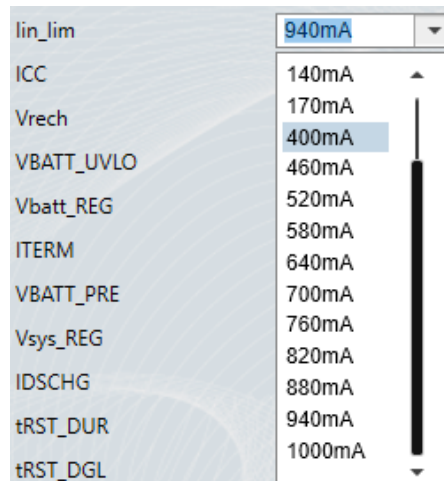

Figure 7: Input Current Limit Setting
- Figure 7 shows the input current limit setting. Set the input current limit to 940mA (the range is 50mA to 1000mA).